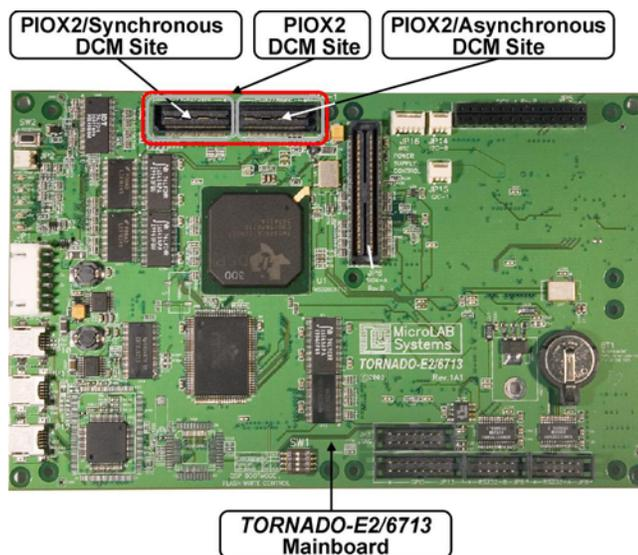

Figure D-1. *PIOX2* DCM site at *TORNADO-E2/6713* DSP controller board.
*PIOX2* DCM site interface comprises asynchronous and synchronous sections and allows installation of either asynchronous *PIOX2* DCM only or *PIOX2* DCM with both asynchronous and synchronous interfaces. (Figure D-1).